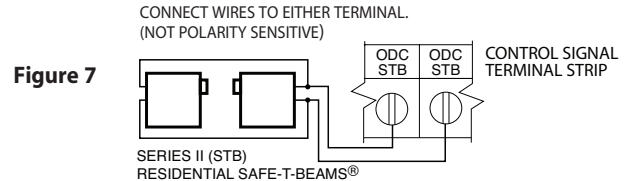

Figure 7
- 1) Monitored SERIES II (STB) photocells (P/N 35048R.S) can be installed as shown in **Fig. 7**. Wiring to these photocells can be connected to either terminal (they are not polarity sensitive). (**Troubleshooting in Section 8**).